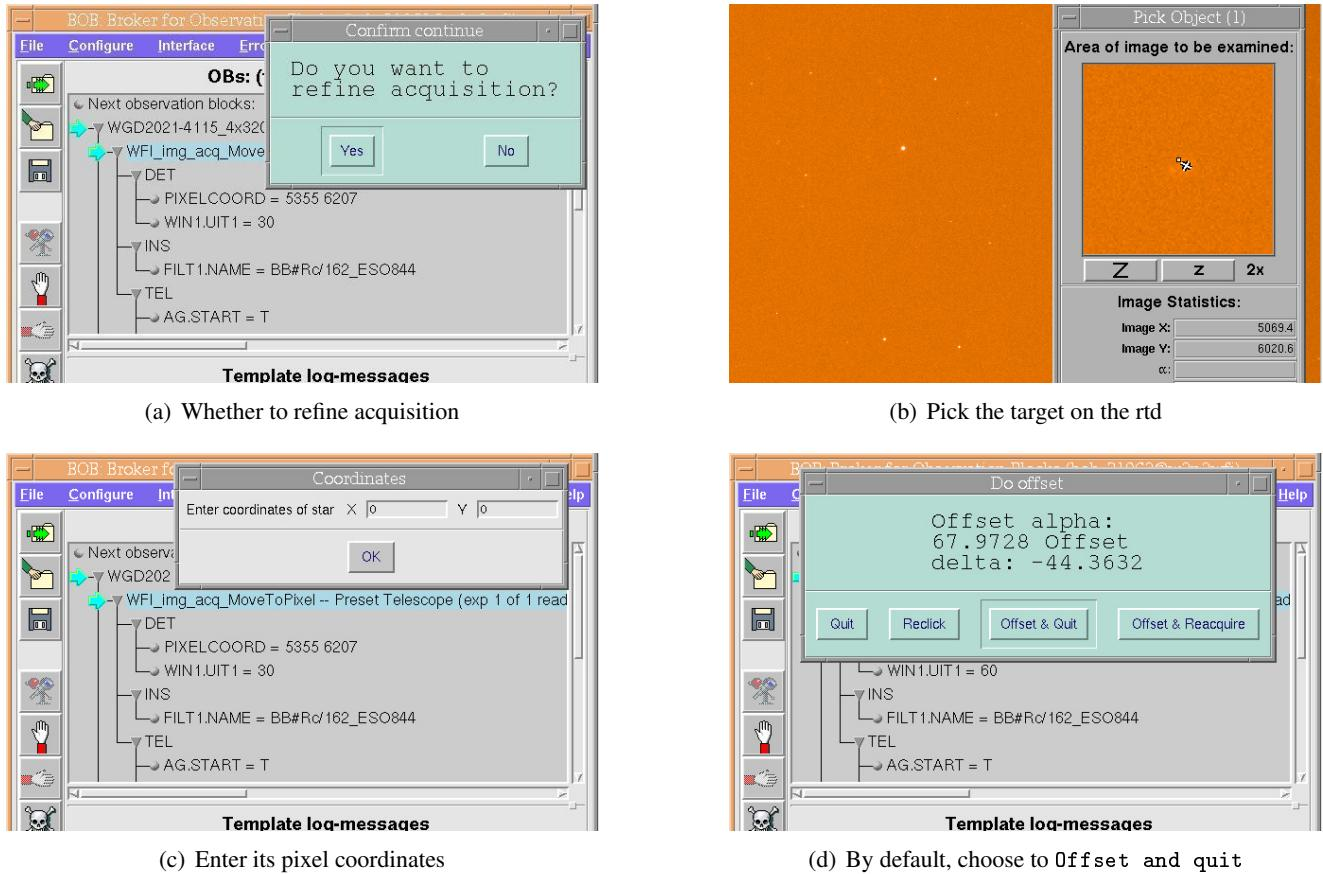

Figure 6.1: Refining the WFI acquisition for the `WFI_img_acq_MoveToPixel` template.
- B. Accept or decline refining by answering the pop-up Confirm continue (Fig. 6.1(a), p. 54)
- C. Pick target (Fig. 6.1(b), p. 54)
- D. Enter coordinates on pop-up Coordinates (Fig. 6.1(c), p. 54)
- F. Examine the offset proposition on pop-up **Do offset** (Fig. 6.1(d), p. 54)
- G. Answer pop-up **Do offset** (Fig. 6.1(d), p. 54)